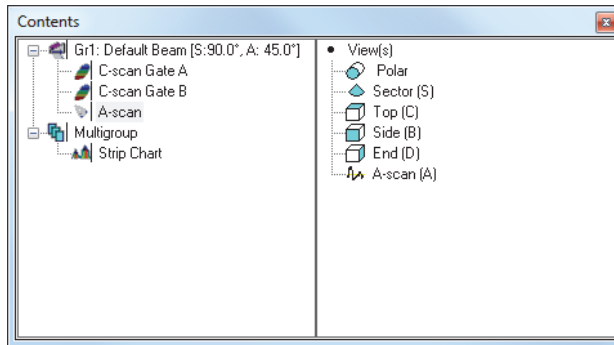

Figure 4-37 Example of the Contents dialog box
2. Click  on the component toolbar (or press SHIFT+ENTER) to open the **Contents** dialog box (Figure 4-37 on page 133).